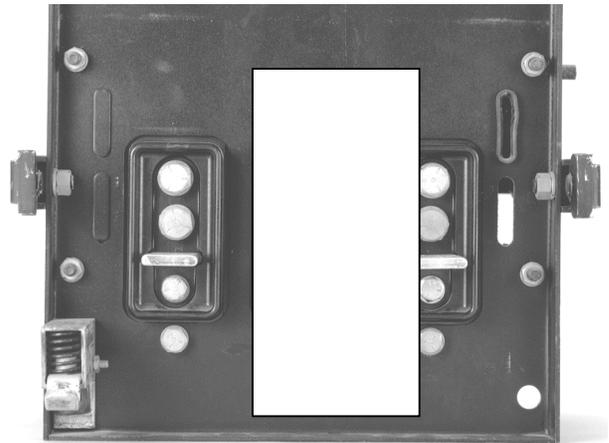

Figure 3. Removing the bolts securing the existing trip units.
2. Remove the two $\frac{1}{2}$ -13 bolts above each load terminal, as shown in Figure 3. Discard the bolts and lock washers.
3. Remove and discard the $\frac{3}{8}$ -16 bolt under each load terminal, as shown in Figure 3. The trip units should loosen as this bolt is removed.